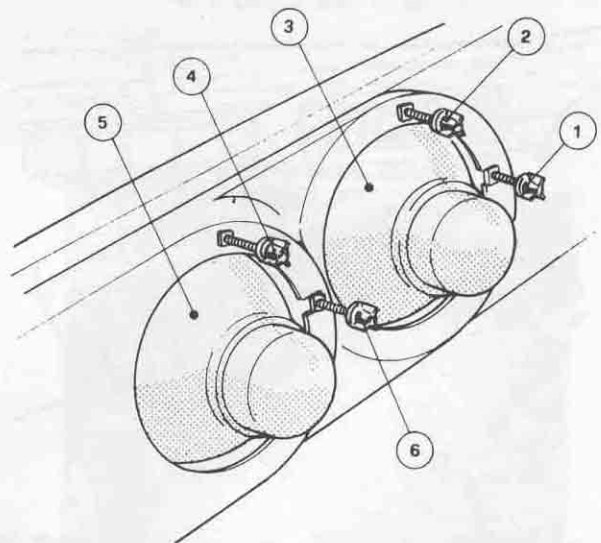

Fig. 10.11 Headlamp aiming knobs (models without self-levelling system) (Sec 21)
- 2 However, if for some reason the headlamp beam has been altered dramatically then it can be roughly aligned using the large plastic knobs on the rear of the headlamp unit (Figs. 10.11 and 10.12).